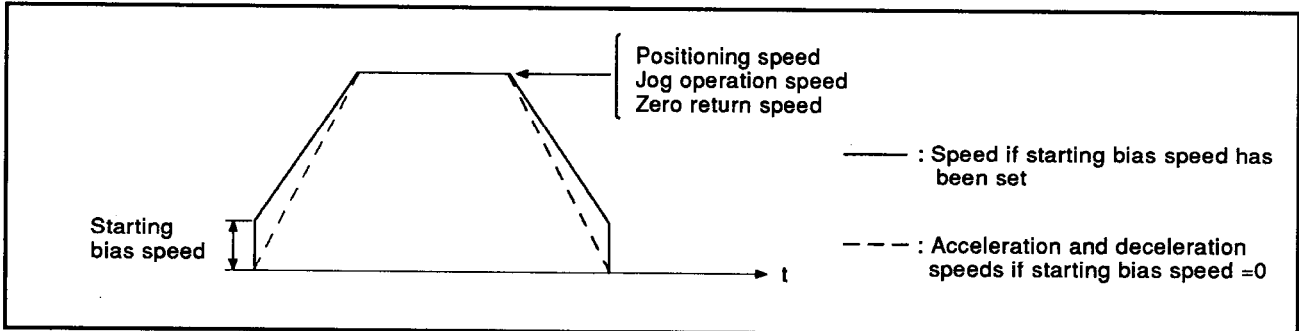

Fig. 3.3 Speed Change When Starting Bias Speed is Set
(5) Starting bias speed
- The starting bias speed is used for positioning, jog operation, and zero return. See Fig. 3.3.